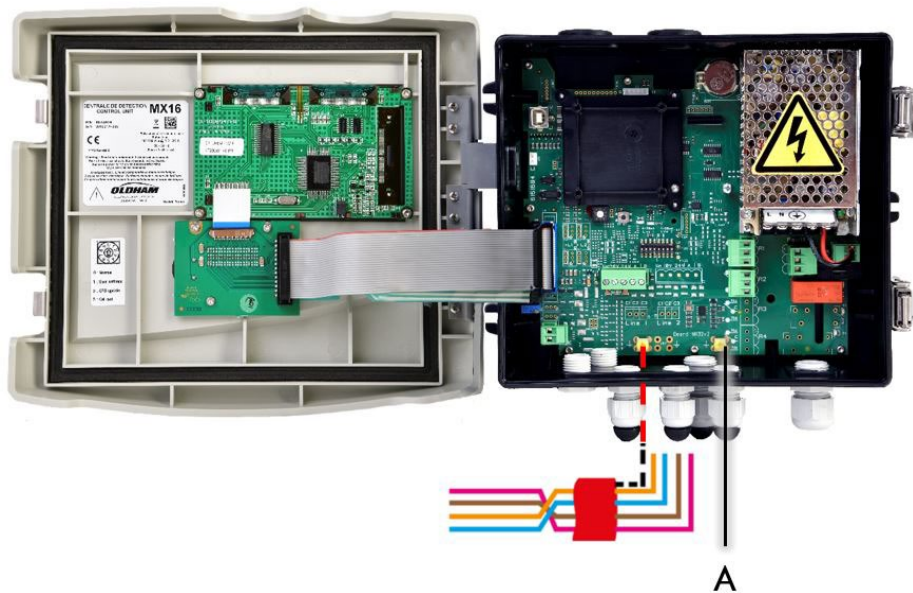

Figure 11: Ground and braid connection
5.1.3 Grounding The *MX 16* meets EMC and Low Voltage Directives requirements. In order to fully comply with the class of protection, it is absolutely necessary to connect the ground terminal to the Earth of the site (Figure 11, A). Moreover, the cable braids of the digital and analog lines shall also be connected to this ground terminal.